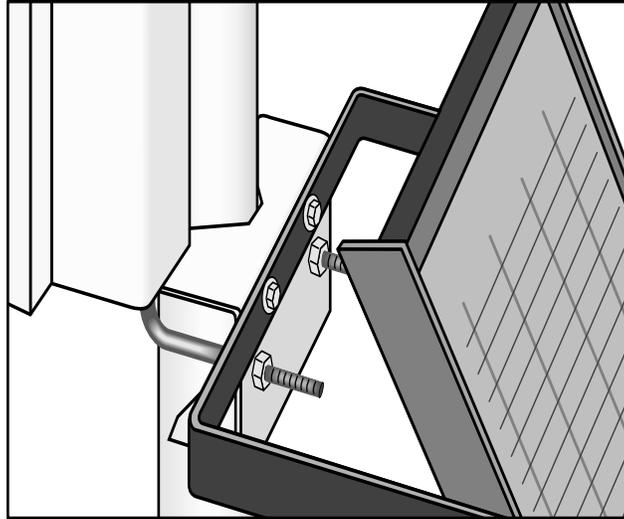

Figure 18
Mount the solar panel to the tower using the mounting brackets as shown in Figure 18. Mount the solar panel to the tower so it faces south (northern hemisphere). Position it as high off the ground as practical; ensuring it cannot interfere with air flow or sunlight around the sensors. The solar panel should be oriented to receive maximum insolation over the course of the year. Suggested tilt angles (referenced to the horizontal plane) are listed below:
1. Mount and ground the enclosure on the Tower as shown in Figure 18.